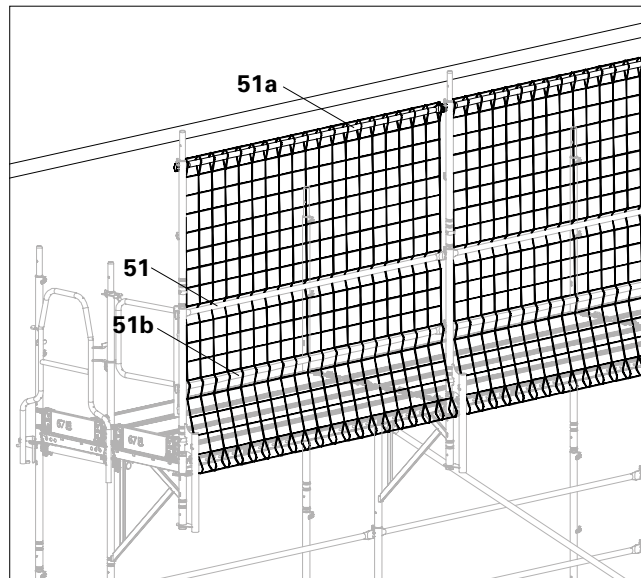

Fig. D2.08
3. As seen from the scaffold, the safety net hangs in front of the guardrail post (**51**) and behind the intermediate guardrail (**51b**). (Fig. D2.08 + D2.08a)